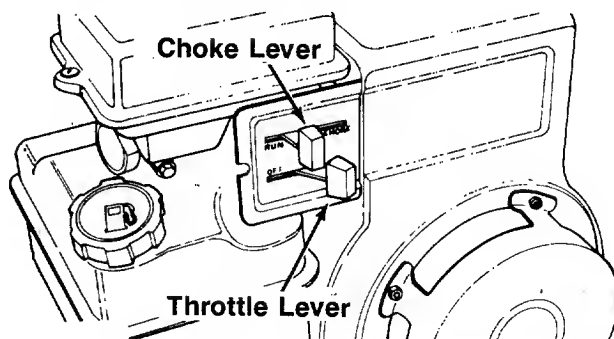

FIGURE 13.
1. Place throttle control lever on the engine in FAST position. See figure 13.